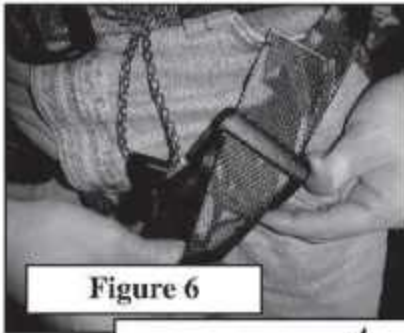
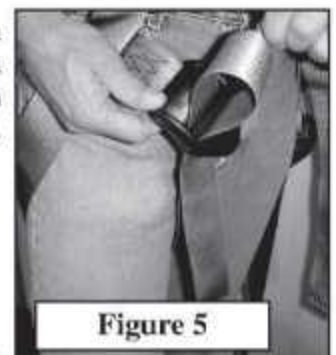

Figure 6
Figure 5
**Step 4.** Thread leg strap through leg buckle as shown in **Figure 5**. Pull tag end of leg strap to adjust fit. Leg strap should be comfortably snug. Back thread tag end of strap to keep leg buckle from loosening as you walk, as shown in **Figure 6**. (see **Buckle Threading Diagram** above for complete threading instructions).